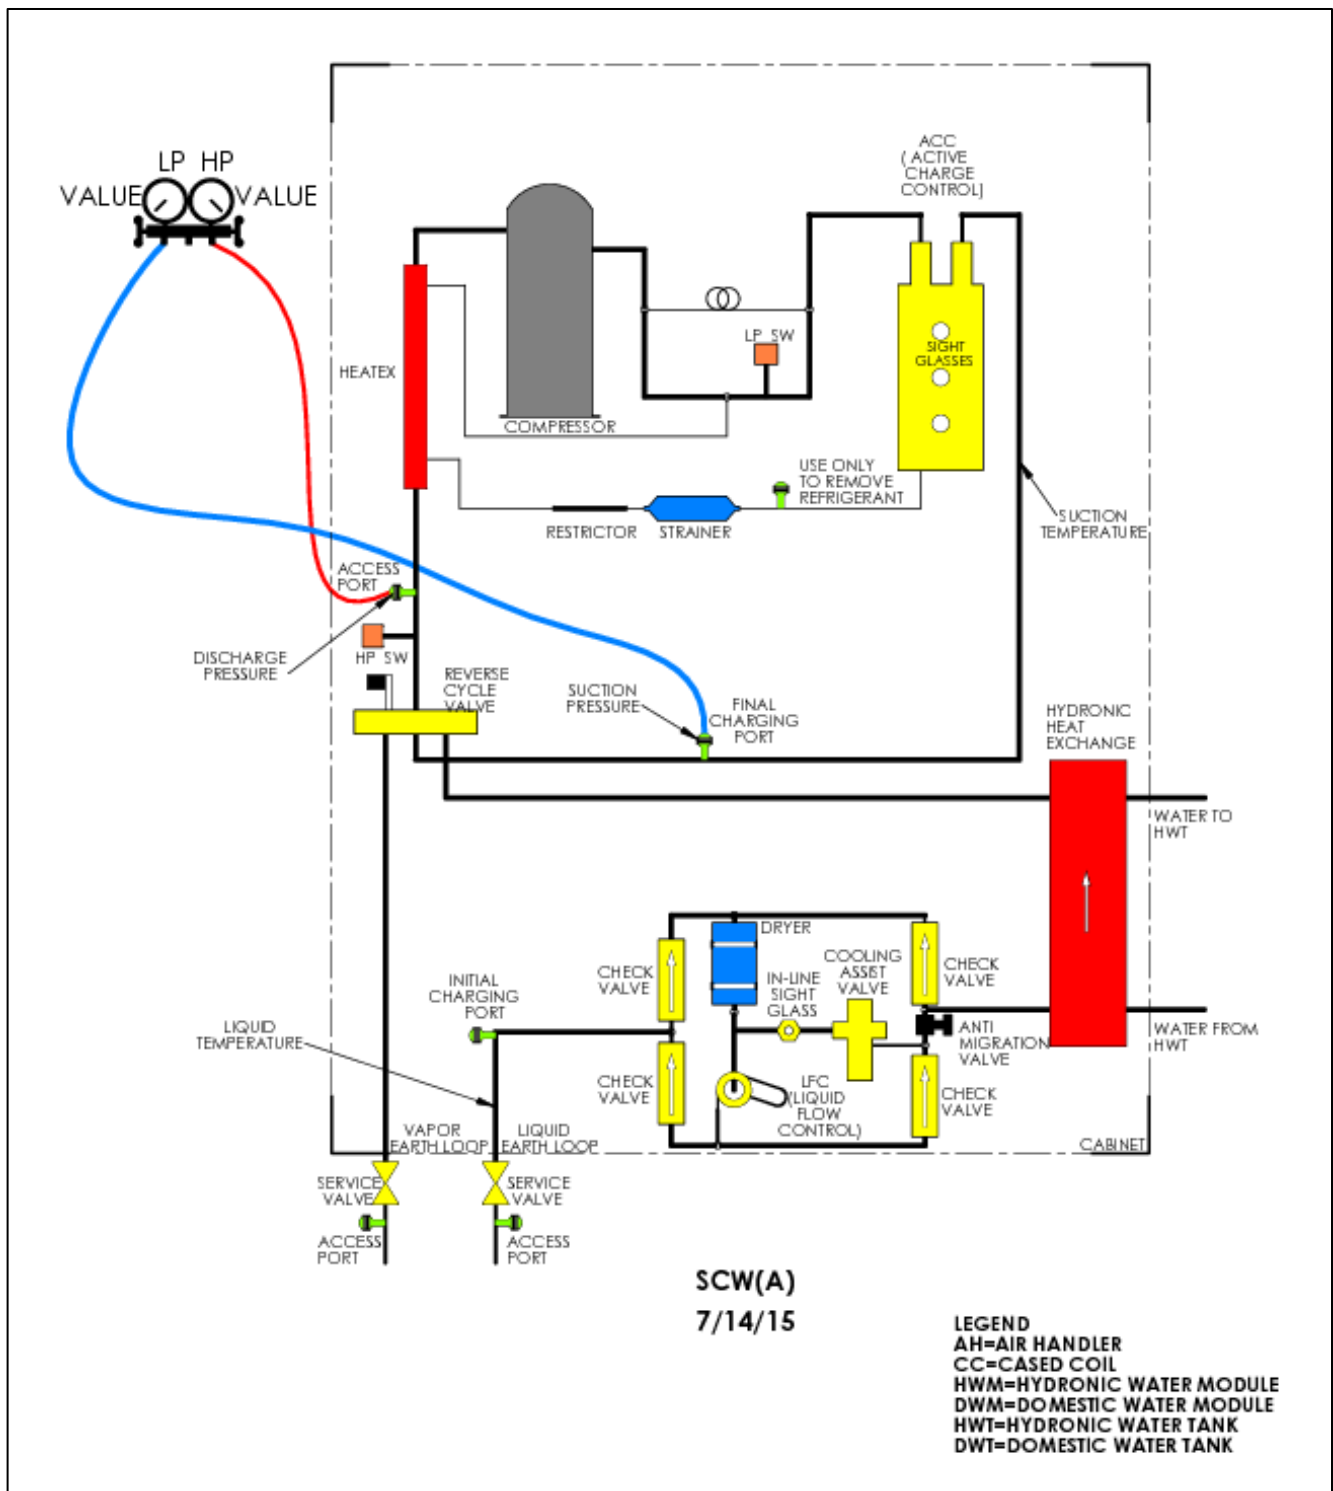

Figure 29. Pressure and Temperature Measurements
1. Start the system in cool mode and monitor the suction pressure on the LP gage as shown in Figure 29. The following steps indicate when the CAV (Cooling Assist Valve) closes. **Do not adjust the CAV!**
2. After suction pressure stabilizes, monitor the increasing compressor discharge pressure at the HP gage as shown in Figure 29.
4. CAV closure is to be verified by checking the temperature of the earth loop liquid line just inside the compressor unit, as shown in Figure 29 **if this liquid temperature is 100°F or above, the CAV is closed.**